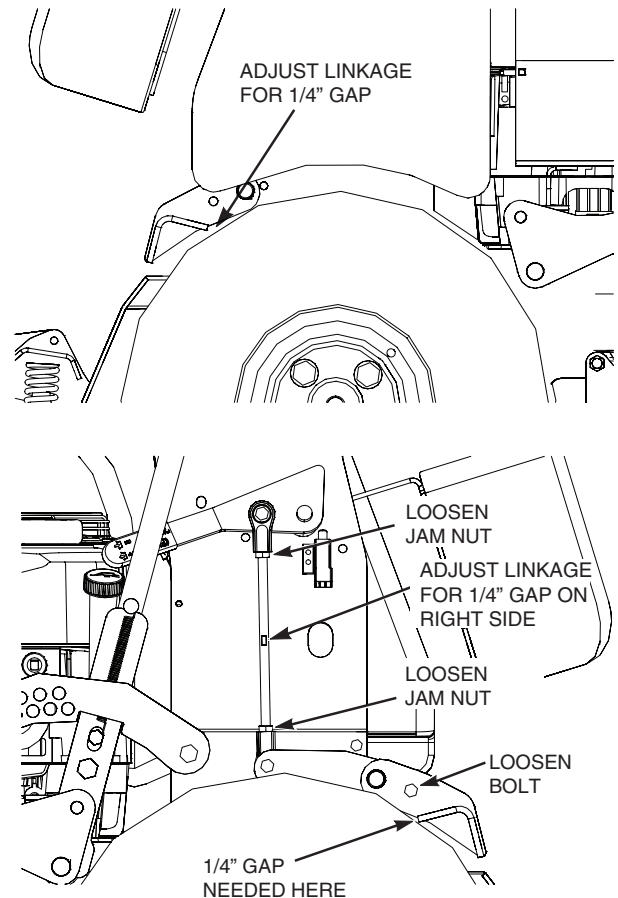

Figure 6-1. Brake Adjustment
3. Look for a gap (approximately 1/4") between the right side drive tire and the brake bellcrank. See Figure 6-1. Loosen the jam nuts and adjust the brake linkage rod until there is a 1/4" gap between the tire and right hand brake bellcrank. The right hand side must be adjusted first before adjusting the brake weldment on the left side.